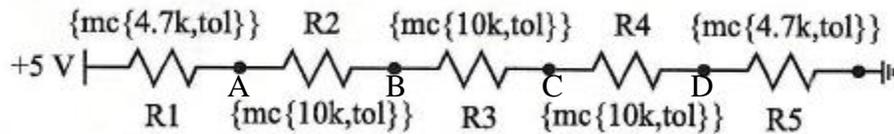

Figure 6.6: Resistor ladder with the resistor values assigned by the LTspice Monte Carlo function.
- a. Construct the circuit shown in Figure 6.6, setting the resistor values to call the mc function as shown.